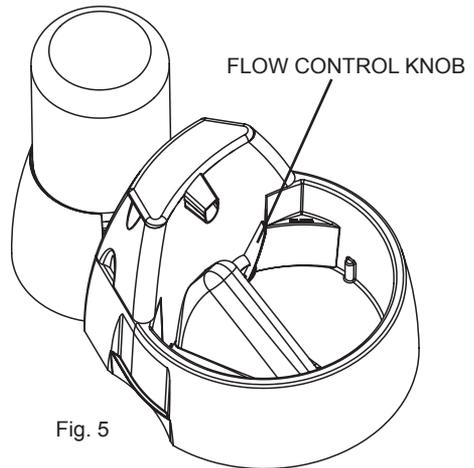

Fig. 5
9. Set the desired flow rate with the flow control knob, which is next to the ramp in the bowl (Fig. 5).